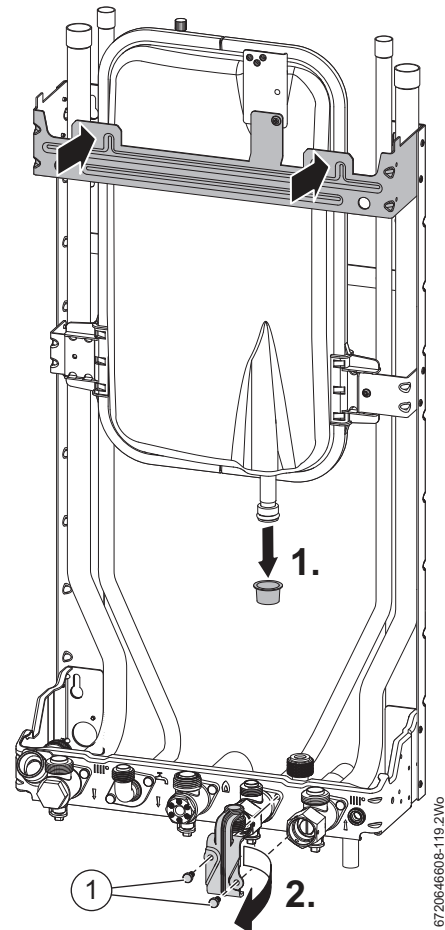

Fig. 35 Mounting points
1. Refer to figure 35 and ensure that the plastic protection cap is removed from the expansion vessel connection pipe.
- ▶ Remove the two screws (1) holding the pre-plumbing connector in place.
- ▶ Replace the two screws (1) removed earlier and tighten firmly.
- ▶ The boiler is mounted on the wall frame utilising the two mounting points, indicated on figure 35, left and right at the top of the wall frame.